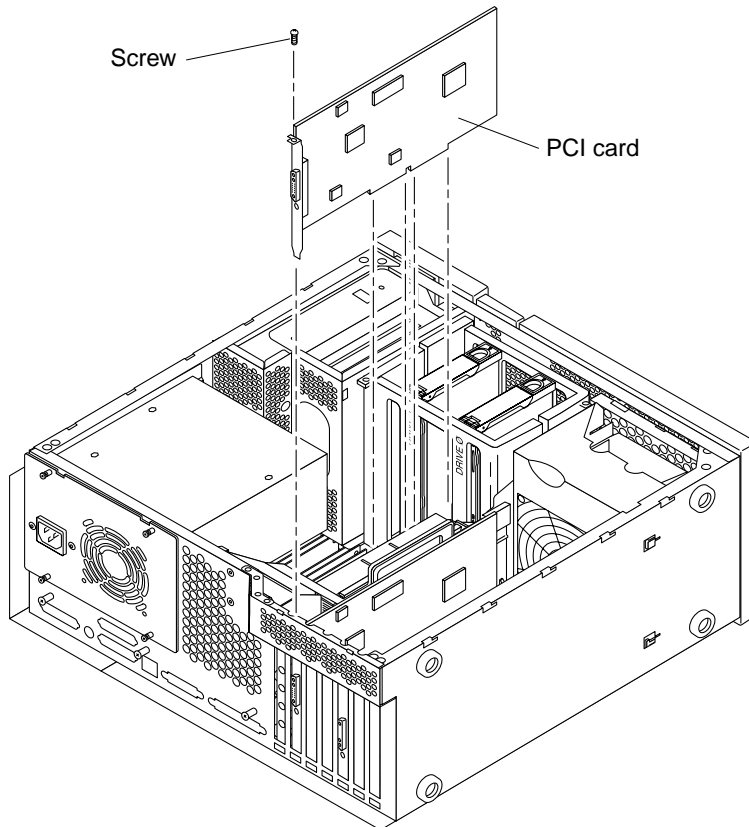

FIGURE 10-3 Removing and Replacing a PCI Card
5. Remove the PCI card as follows (FIGURE 10-3):
1. **Replace the PCI card as follows (FIGURE 10-3):**